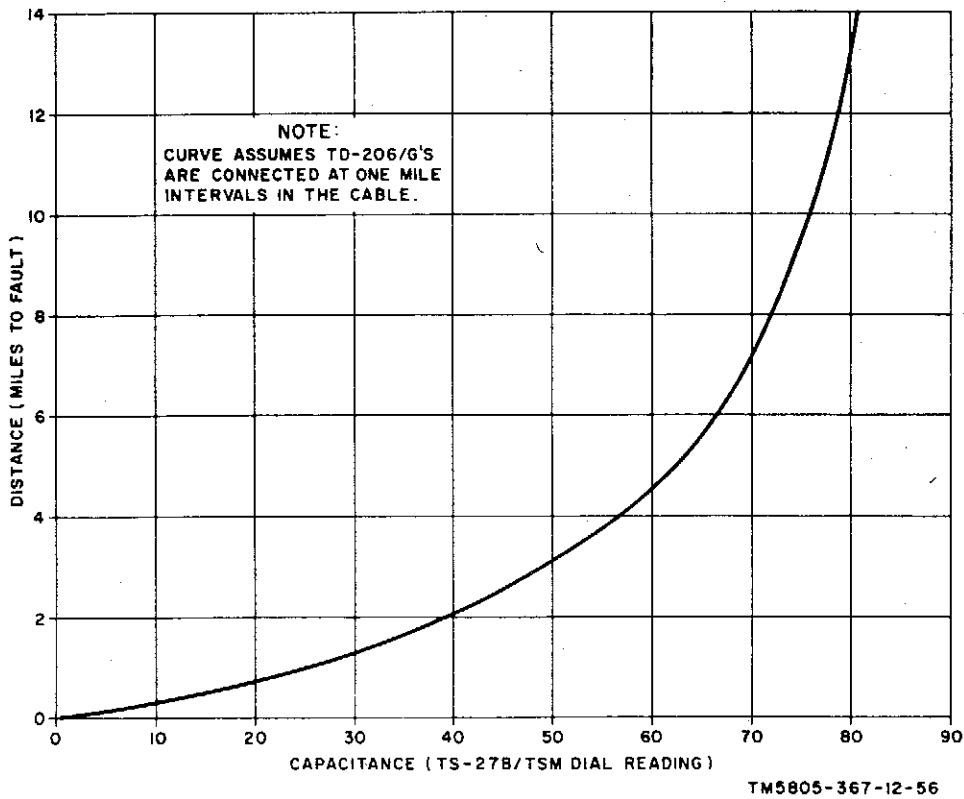

Figure 4-1. Test Set TS-27B/TSM, CX-4245/G transmission cable capacitance-distance curve.
- (1) Operate the TD-204/U CABLE POWER switch to OFF.
- (2) Disconnect the cable from the TD-204/U TO CABLE connector and connect it to Test Set TS-27B/TSM.
- (3) Measure the capacitance of the cable with the TD-27B/TSM and translate the indication into the distance to the fault (fig. 4-1).
- (4) If the indicated distance exceeds 10 miles, send a lineman out to the 10-mile point to repeat the measurement.
- (5) Instruct the lineman to use the AN/PTM-7 at the cable connection nearest the fault to locate the distance to the fault.